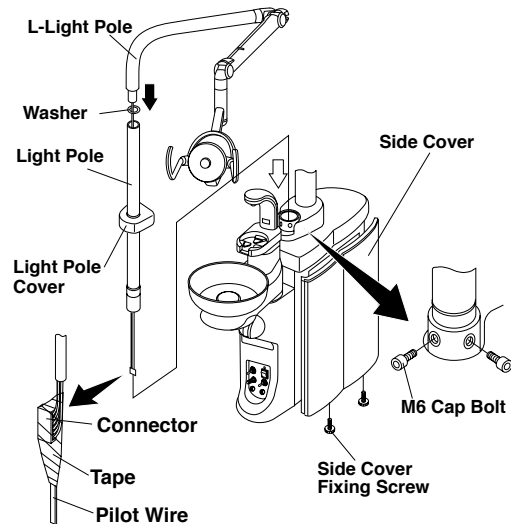

Fig.6-15 Fixing Light Pole to Cuspidor Unit
A Remove the 4 x side panel fixing screws from the bottom of the cuspidor unit and remove the side cover. **(Fig.6-15)**
C. Remove the light pole cover from the cuspidor unit. Insert the light pole into the light pole cover. **(Fig.6-15)**
D. Pass the light wires through the light pole and insert the L-light pole into the light pole. Insert the light pole with dental light and L-light pole into top of the cuspidor unit. **(Fig.6-15)**
E. Fix the light pole in to the cuspidor unit and tightening the 2x M6 cap bolts. Fix the light pole cover to the cuspidor unit. **(Fig.6-15)**
G. After installing the dental light, fix the side panel back onto the cuspidor. **(Fig.6-15)**